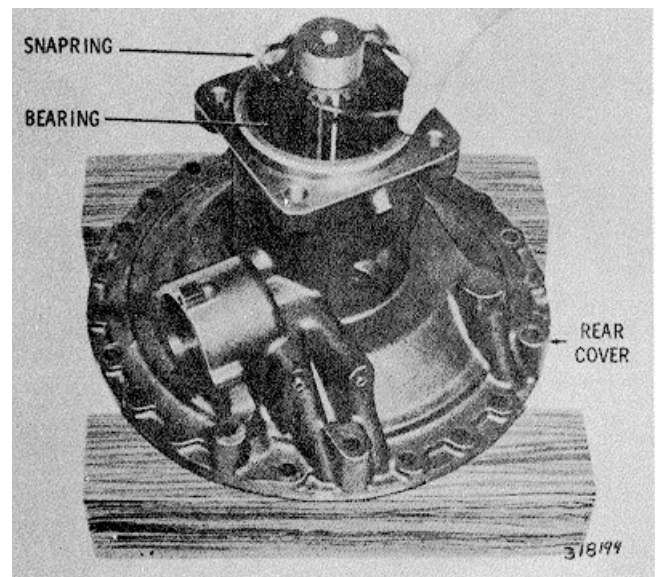

Fig. 6-51 Removing (or installing) output shaft bearing snapring
- (4) Remove the snapring that retains the rear output shaft bearing (fig. 6-51).
(12) On assemblies before S/N 5660, install the bevelled snapping (bevel toward rear of transmission) as shown in figure 6-51. On later transmissions, the snapping is not bevelled. Be certain that the proper snapping is used to match the groove in the housing. Be sure the snapping is expanded fully into the groove.